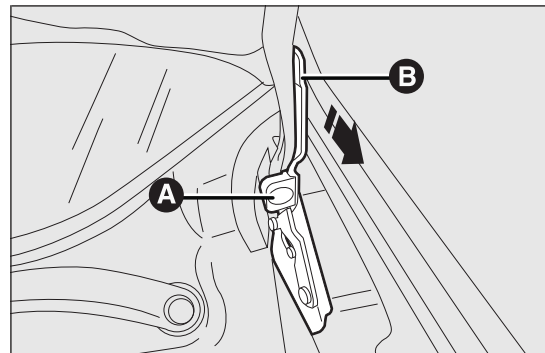

fig. 86
- ❑ lift the bonnet with one hand and pull the device A fig. 86 towards yourself while you are lowering the B;